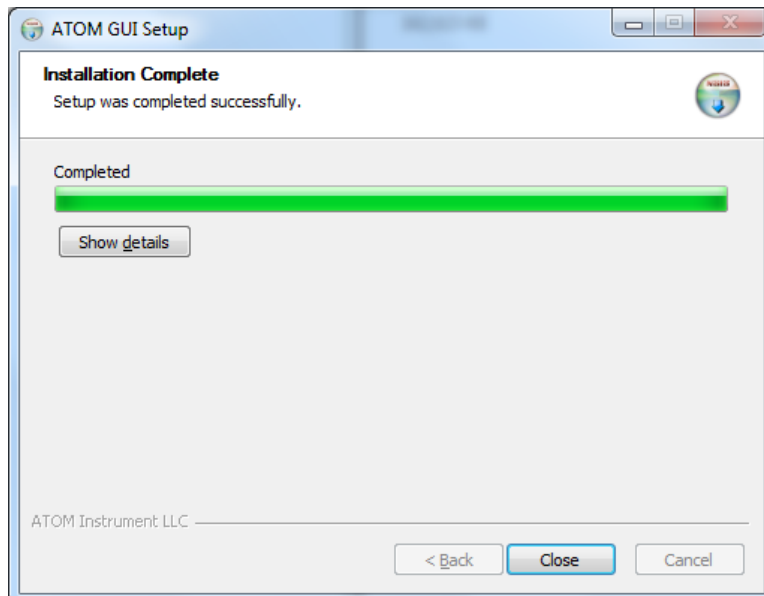

Figure 3.13
- Once the installation is complete (~ 1 - 2 mins), click **Close** (*Figure 3.13*)